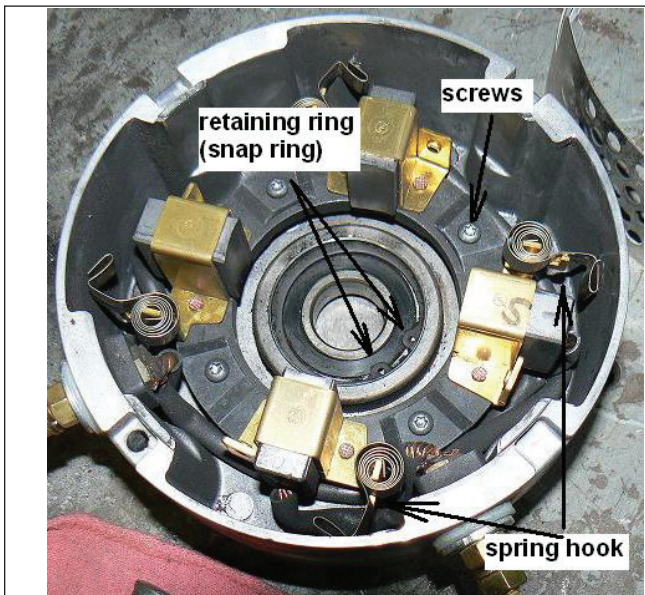

Figure 10-6. Spring Hooks for Brush Springs
5. Move brush springs behind spring hooks shown in Figure 10-6.
8. Remove bearing retainer (snap ring) shown in Figure 10-6. Carefully press out the bearing from motor head. Replace the bearing.